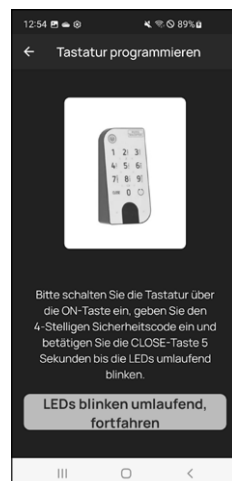

Fig. 8
⑨ You will be asked to set the keypad to programming mode (Fig. 8). Instructions on how to do this can be found in the chapter "Setting the keypad into programming mode" on page 3. As soon as the keypad is in programming mode, indicated by the LEDs on the keypad flashing continuously, tap the "LEDs flashing continuously, continue" key in the app (Fig. 8).
⑩ A confirmation will appear after a brief moment when the data has been transferred. Confirm with "OK"